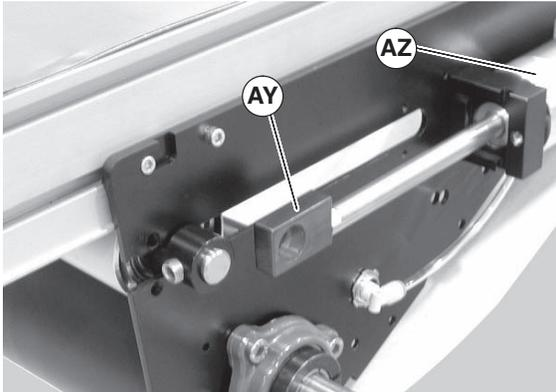

Figure 25
8. Push shaft (Figure 24, item AX) through block, and slide block (Figure 25, item AY) towards air cylinder (AZ).